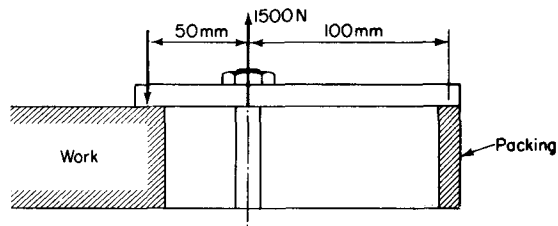

Fig. 2.41
**Example.** Fig. 2.41 shows a job clamped to the table of a machine. If the clamping bolt provides a force of  $1500 \text{ N}$ , find the force holding the work in position.